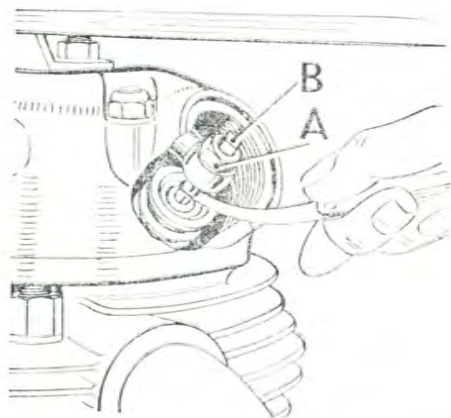

FIG. 10.
before the valve actually starts to open. This is the correct position for checking and adjusting the intake valve clearance. Check the valve clearances by sliding a feeler gauge between valve stem and adjusting pin, as shown in Fig. 10.
If the clearance requires adjusting, slacken the locknut (A) Fig. 10, and adjust pin (B) until a feeler gauge of the correct thickness will just slide between the valve and pin.
The clearance between the rocker arm and valve stems is adjusted by means of eccentric rocker spindles, although the gauge is still inserted through the inspection aperture as shown in Fig. 10.